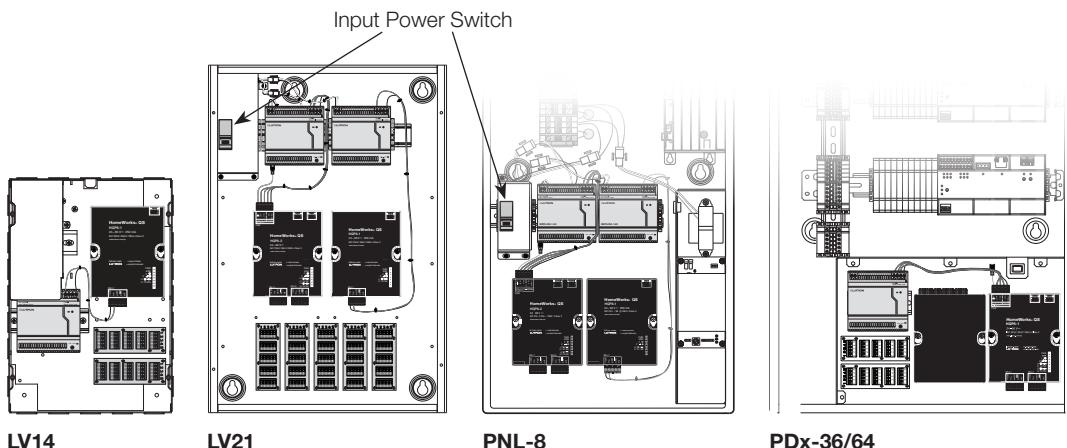

Figure 2—Power Wiring
2. Connect power: The processor is powered from the QSPS-DH-1-75 power supply. Connect the processor to the power supply as shown in **Figure 2**. Refer to the configuration software to determine link power requirements. If using the wire harness included with QSPS-DH-1-75-H, cap off unused wires.